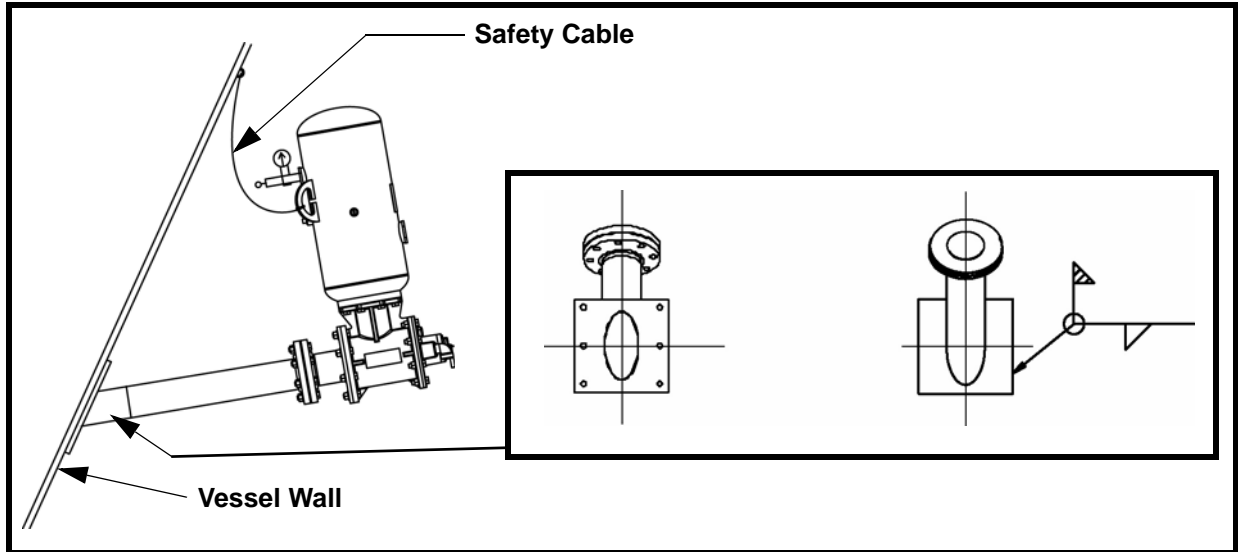

Figure 3. Installing 30-Degree Mounting Plate
Each XHV Air Cannon’s serial and model number is shown on a plate attached to the tank (see Figure 3). Serial and model numbers must be referenced when ordering parts from Martin Engineering or representative, and on all correspondence.
- a. If using 30-degree mounting plate (Figure 3), cut hole in storage vessel for each mounting plate using templates on last page of this manual. If templates are missing, contact Martin Engineering or representative. Place mounting plate over hole and field weld to vessel skin.